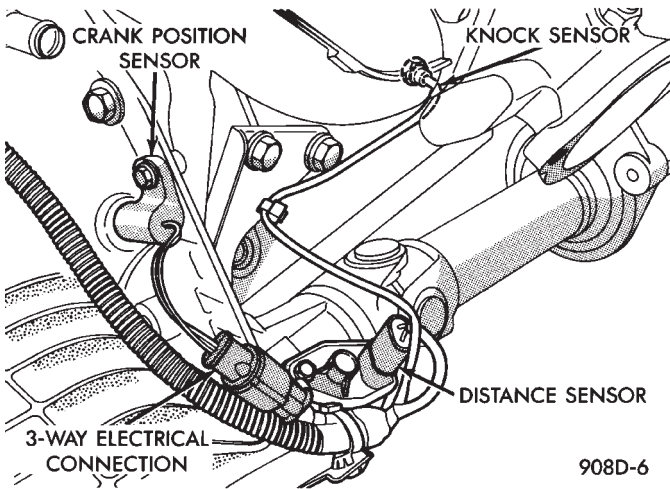

Fig. 23 Crankshaft Timing Sensor
(1) Disconnect crankshaft timing sensor electrical connector from the wiring harness connector (Fig. 23).